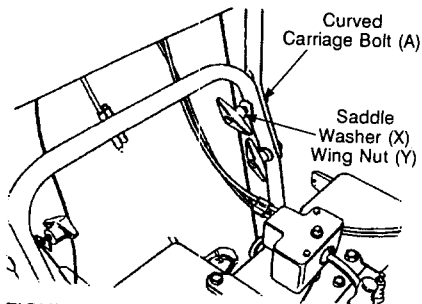

FIGURE 6
- Raise the upper handle assembly until it locks over the lower handle. Secure the lower holes in the handles with the remaining carriage bolts, saddle washers and wing nuts. See figure 6.